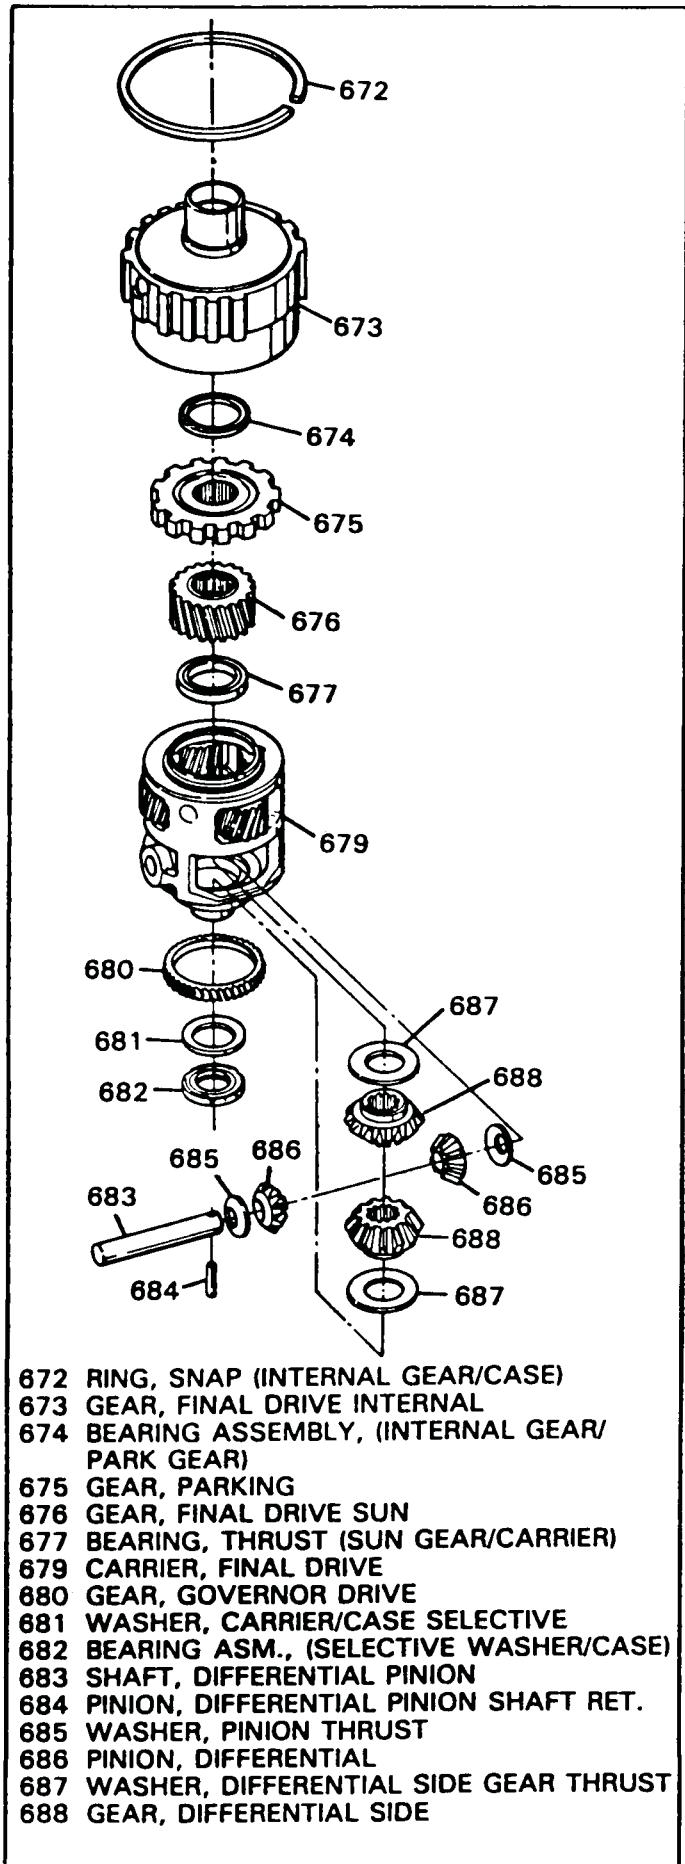

Figure 64
1. Remove the internal gear, thrust bearing, parking gear, and final drive sun gear (See Figure 64).